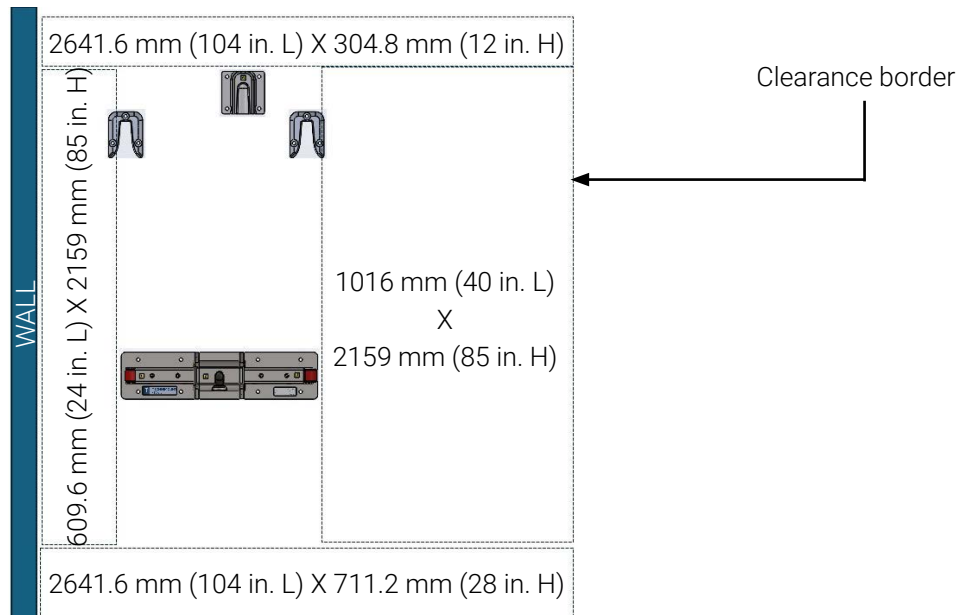

Figure 23: Clearance border measures (corner installation)
- For a corner installation, a 2641.6 mm (104 in.) W X 3175 mm (125 in.) L clearance border is recommended (Figure 23).